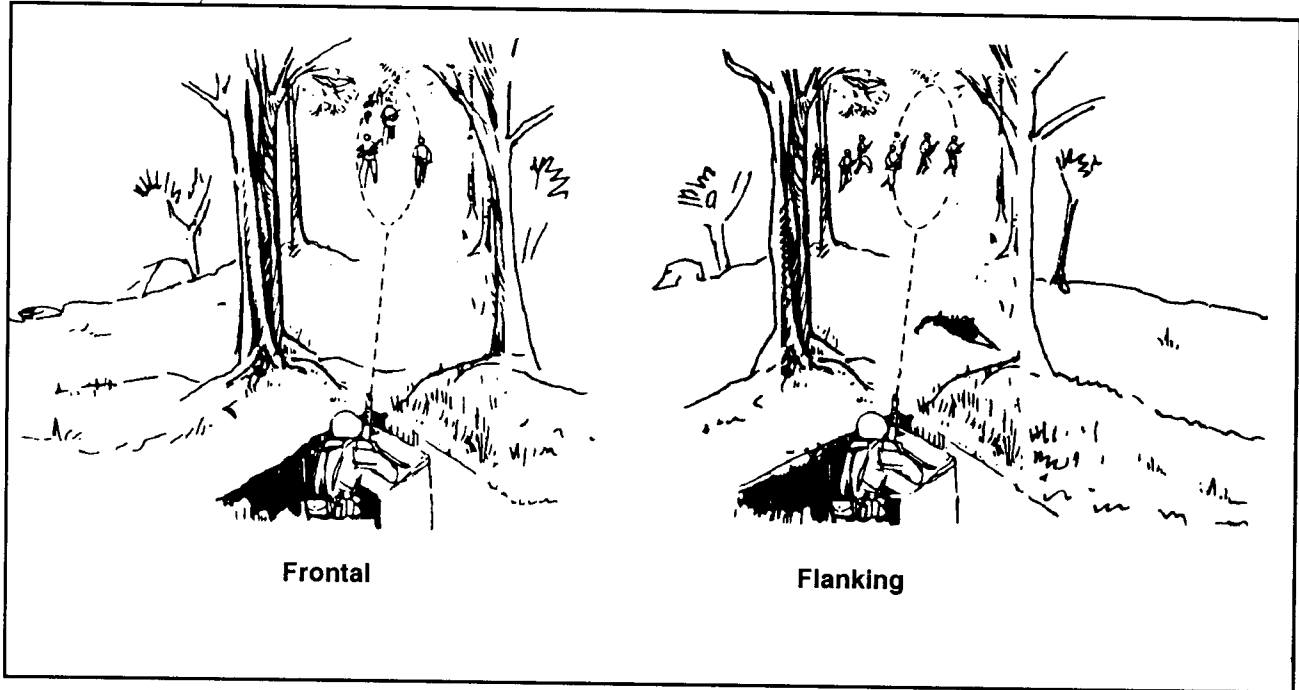

Figure 6-4. Frontal fire and flanking fire.
(1) *Frontal fire*. This is when the long axis of the beaten zone is at a right angle to the front of the target. An example is when firing at the front of a target (Figure 6-4, page 6-4).
(2) *Flanking Fire*. This is firing at the side of a target (Figure 6-4).